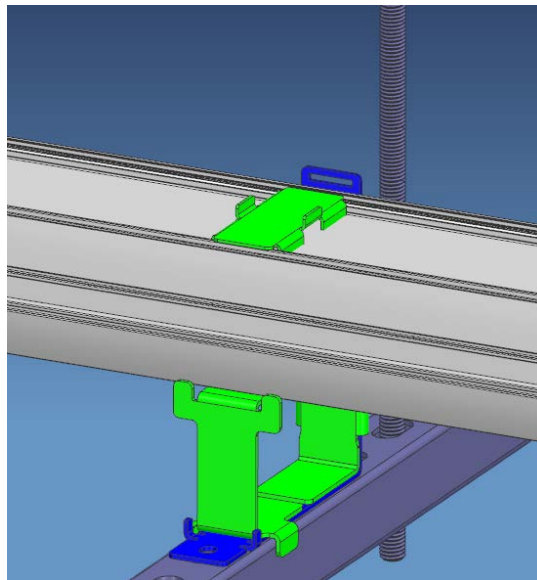

Figure 21 – Place top spacer on PDM2-NB
4. Once PDM-NB module is fully engaged with PEM, align top spacers with base bracket/mid spacer assembly and place on top of PDM-NB (Figure 21).